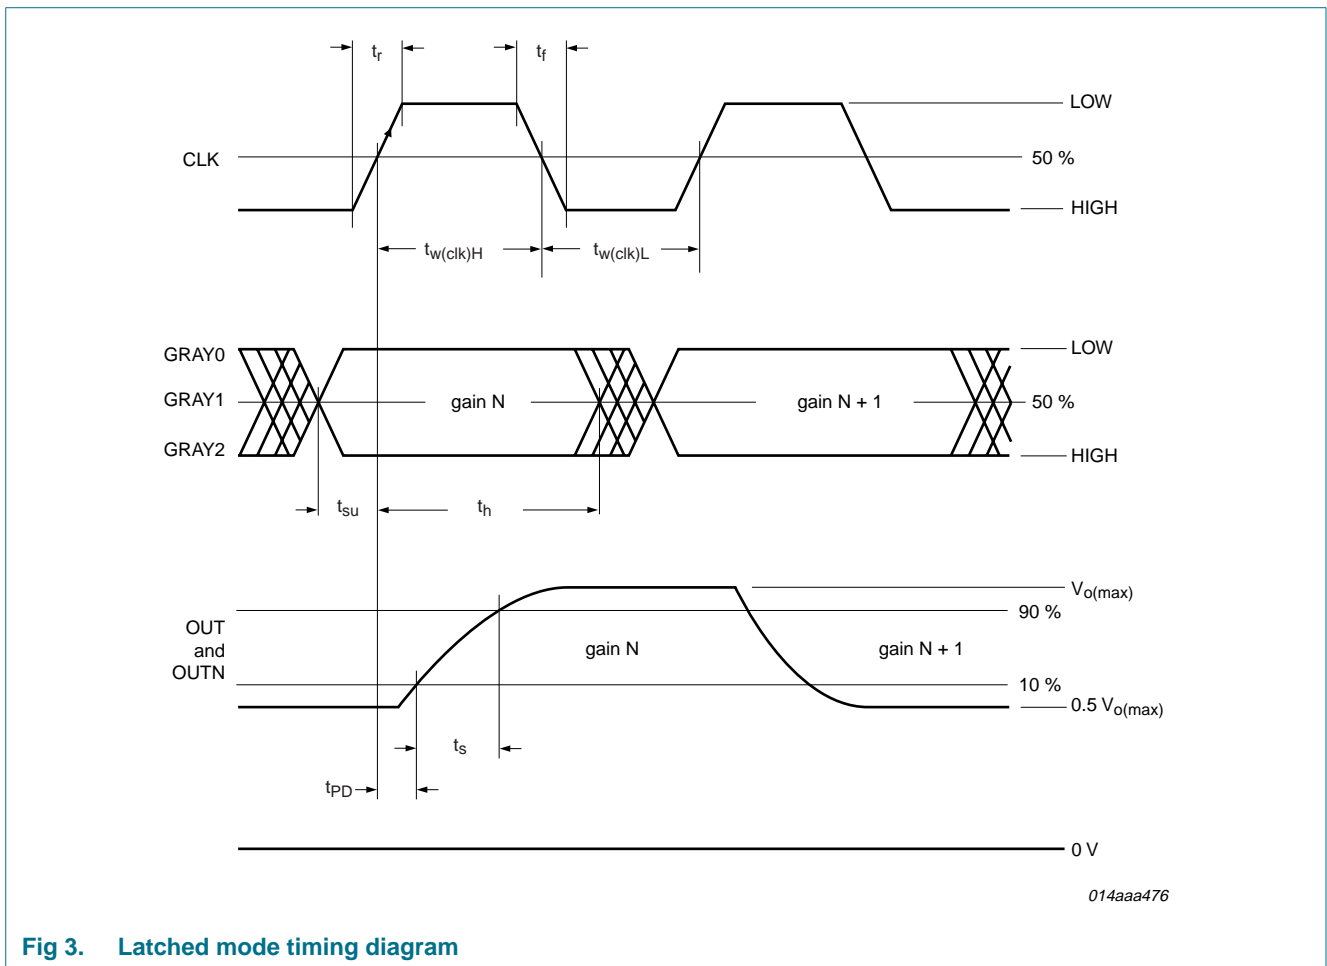

Fig 3. Latched mode timing diagram
**Gain switching characteristics (in latched mode);  $f_{clk} = 52$  MHz;  $T_{amb} = 25$  °C; see Figure 3**
**Clock timing input: pins CLK and CLKN (see Figure 3)**